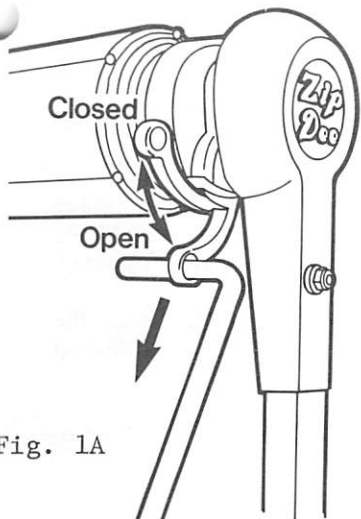
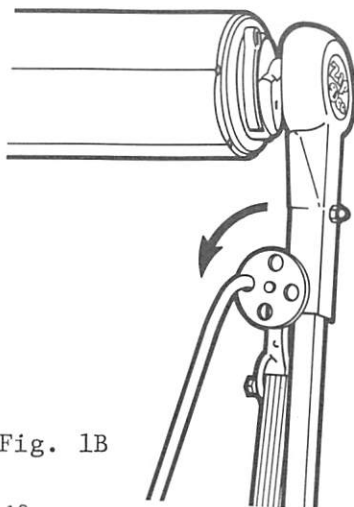
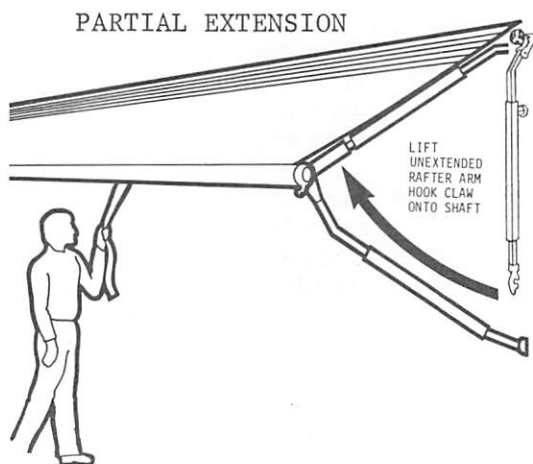

Fig. 1A
Fig. 1B
Fig. 7
- Step 1. Insert the pull rod into the Z-lock lever and pull downward. (Figure 1A) This releases the awning. Then turn the clamp wheel counterclockwise and swing the assembly toward the center to free the hardware. (Figure 1B)
- Step 2. Insert the pull rod in the loop of the center control strap and unroll the awning to the desired extension (Figure 7). Flip the Z-lock lever into the "closed" position to hold awning extended (Figure 1A).
- Step 5. Lock the awning in place by reversing steps 1 and 2 of the opening procedure Figures 1A & 1B).